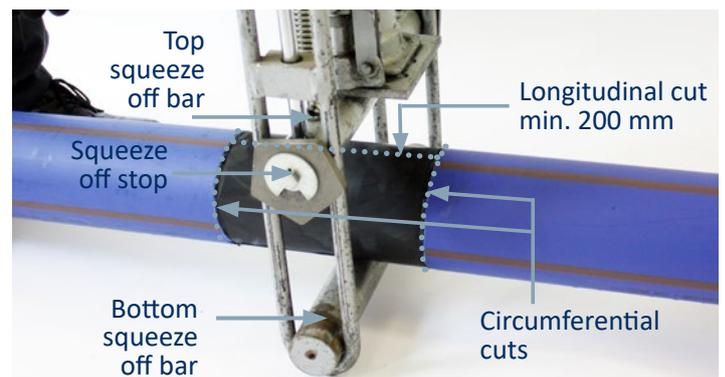

Fig 3. Position of the longitudinal cut, relative to the squeeze off bars
- 7) To remove the skin, make the longitudinal cut at the top squeeze off bar position (Fig 3.)
11) Set both squeeze off tool stops to match the pipe diameter and SDR. For ProFuse® pipe, the squeeze off stop settings are based on the ProFuse® core pipe (external skin removed) as shown in Fig 3.
13) For ProFuse® pipe, the squeeze off tool must be centrally positioned to the area where the skin has been removed (Fig 3.).